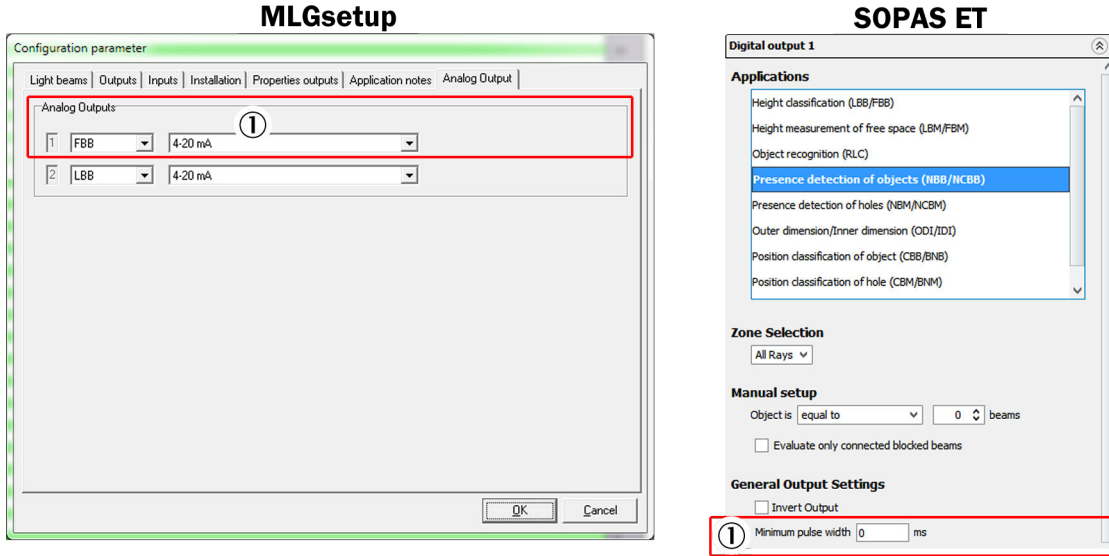
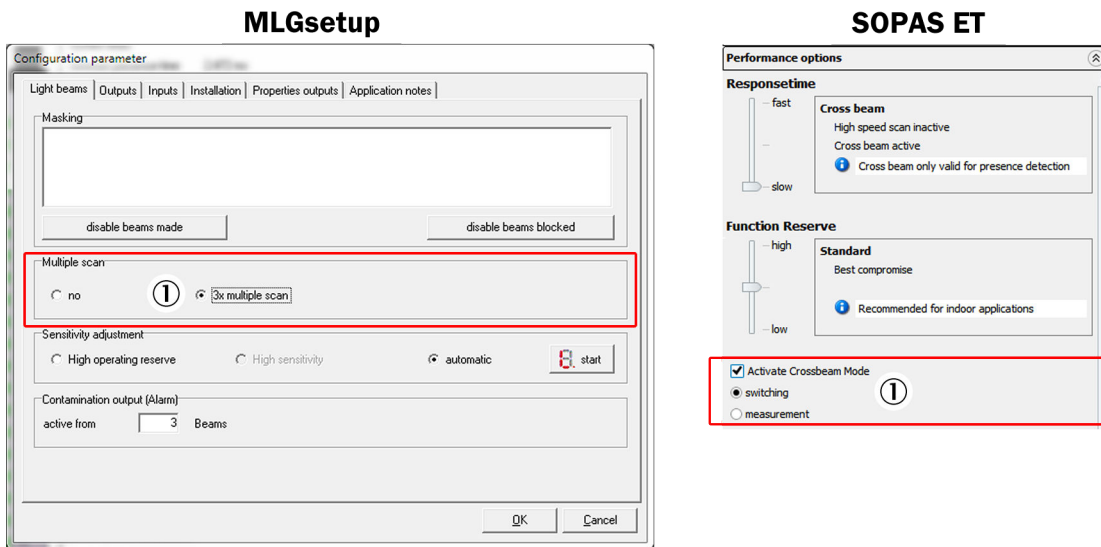

Figure 22: Output properties in MLGsetup and SOPAS ET
Figure 24: Light beams in MLGsetup and SOPAS ET
- “Properties outputs” tab: see figure 22, page 32
- “Light beams” tab: see figure 24, page 33
- ⑥ Off delay (see figure 22, page 32)
- ⑦ Hysteresis cannot be set in SOPAS ET
- ⑧ The number of beams as of which the contamination signaling alarm is active (see figure 24, page 33)
- ⑨ “/” is used to identify an inverted output
The “Light beams” section in the “MLG System Information” file corresponds to the “Light beams” tab in MLGsetup (see figure 24, page 33).